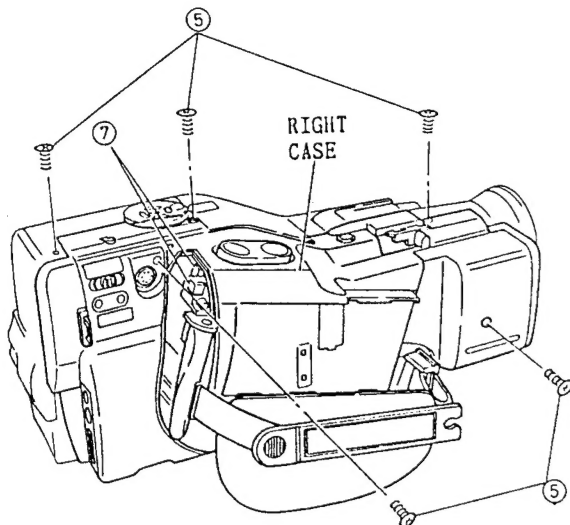

Fig. 2-8
5. Remove five (5) screws holding the right case. (See Fig. 2-8)
7. Disconnect two (2) connectors (PG1, PG2) and remove the right case in the direction of the arrow. (See Figs. 2-8, 2-9)
5. Remove the right case. (See Figs. 2-8, 2-9)
6. Remove the right case. (See Figs. 2-8, 2-9)